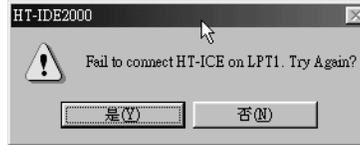

Fig 3-2
- If the last project you worked on HT-IDE2000 is in emulation mode (using HT-ICE), then Fig 3-2 will be displayed if one of the following conditions occurs.